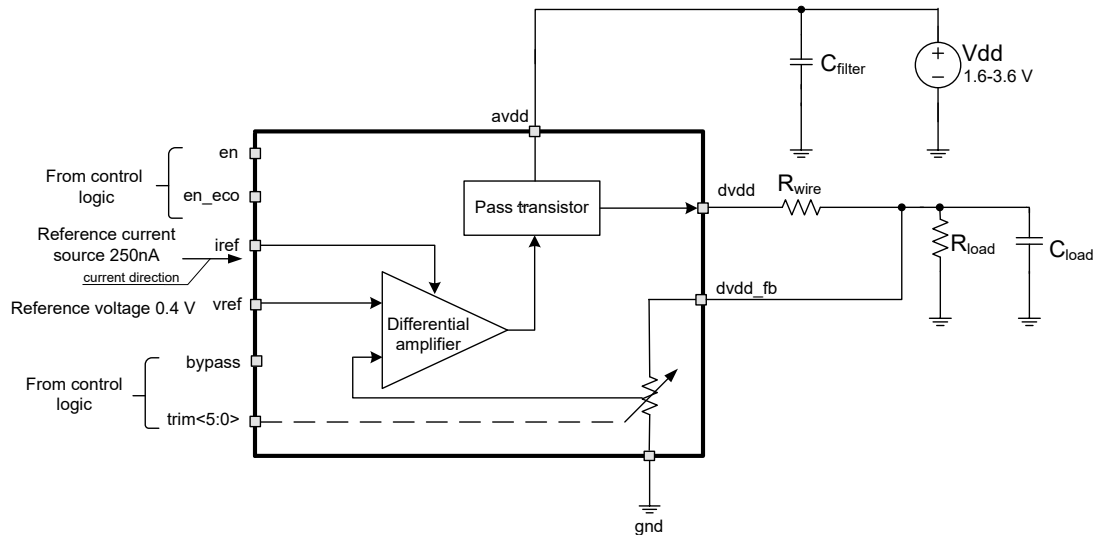

Figure 3: Flash LDO voltage regulator structure and application diagram
- Section 5 “Structure”. Figure 3 updated